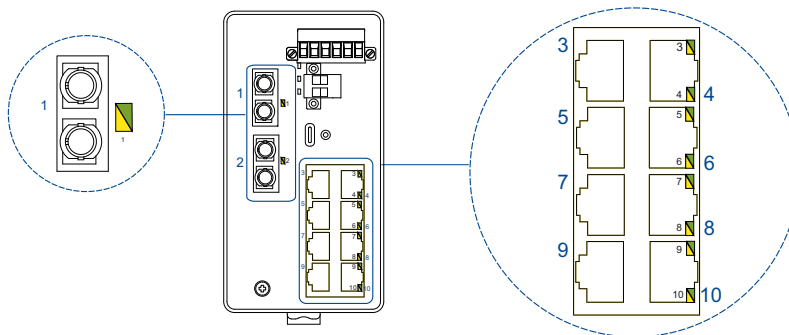

Figure 3: Position of the port display elements on the device variants with 8 × RJ45 sockets
- For the position of the port display elements on the device variants with 8 × RJ45 sockets see figure 3.
- For the position of the port display elements on the device variants with 20 × RJ45 sockets see figure 3.